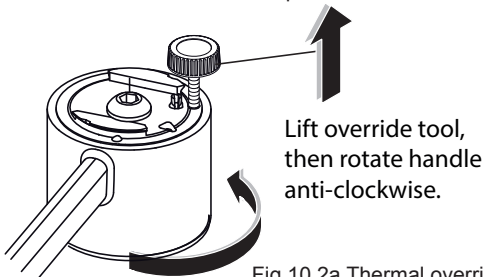

Fig 10.2a Thermal override tool
- 2. Screw the override tool fully into the threaded port on top of the handle, see fig 10.2a